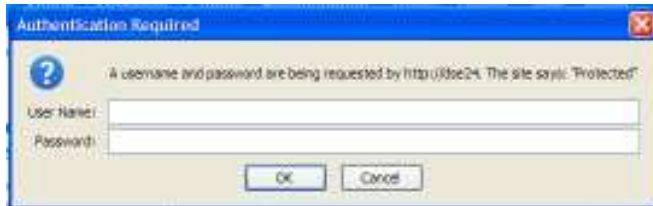

FIGURE 1
5) The following discussion assumes that the PC you plan to use to control the DSE24 is up and running and your web browser of choice has been activated. In the browser's web address window, type in the IP ADDRESS or HOST NAME that you programmed into the DSE24. You will be presented with the dialogue box shown in figure 1 below.